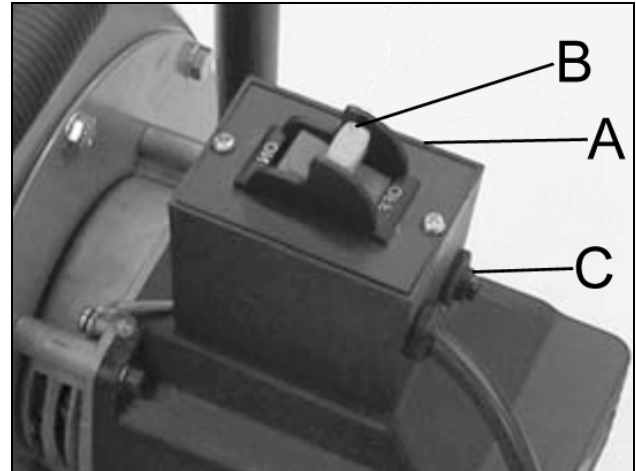

Figure 5
Turn on the dust collector by flipping the switch to the ON position (A) in Fig.5, flip to the OFF position to turn the dust collector off. There is a removable safety key (B) in the center toggle of the switch that can be removed when in the OFF position. When the key is removed the dust collector cannot be turned back on before re-inserting the safety key.
The dust collector is equipped with a circuit breaker reset button (C) Fig.5, if the motor overloads, the circuit breaker will be tripped and the motor will stop. Turn the switch to the OFF position and let the motor cool down for 15 minutes. Press the reset button before re-starting the motor.